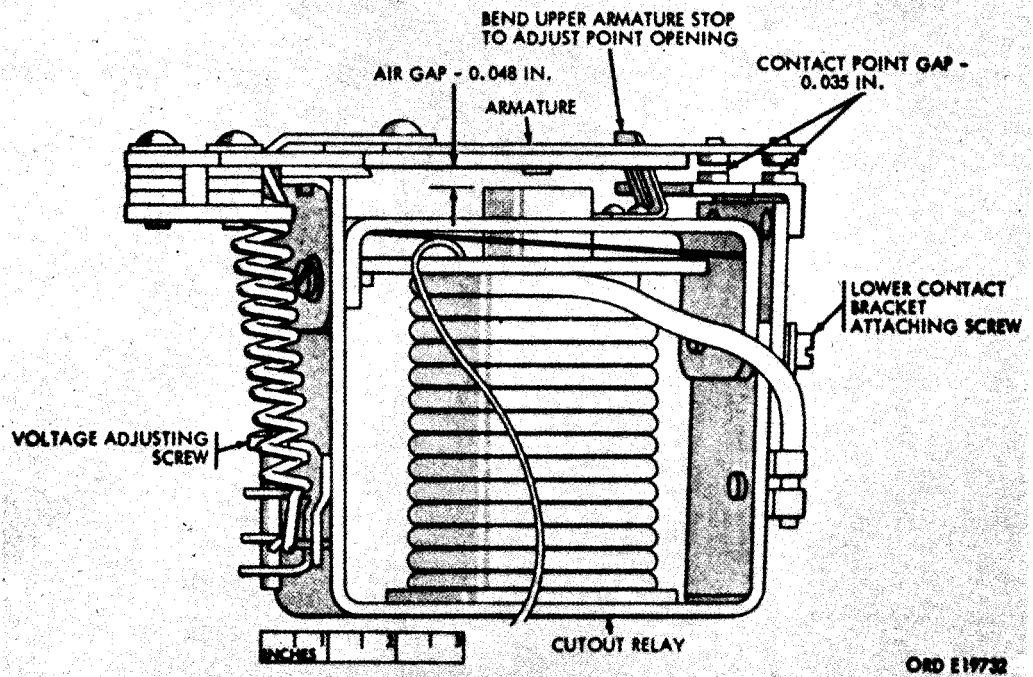

Figure 32. Adjusting cutout relay
(e) **Cutout relay air gap (fig. 32).** Measure the air gap as described in (4) (a). If the contact points do not close completely, realine the lower contact bracket slightly or bend the armature